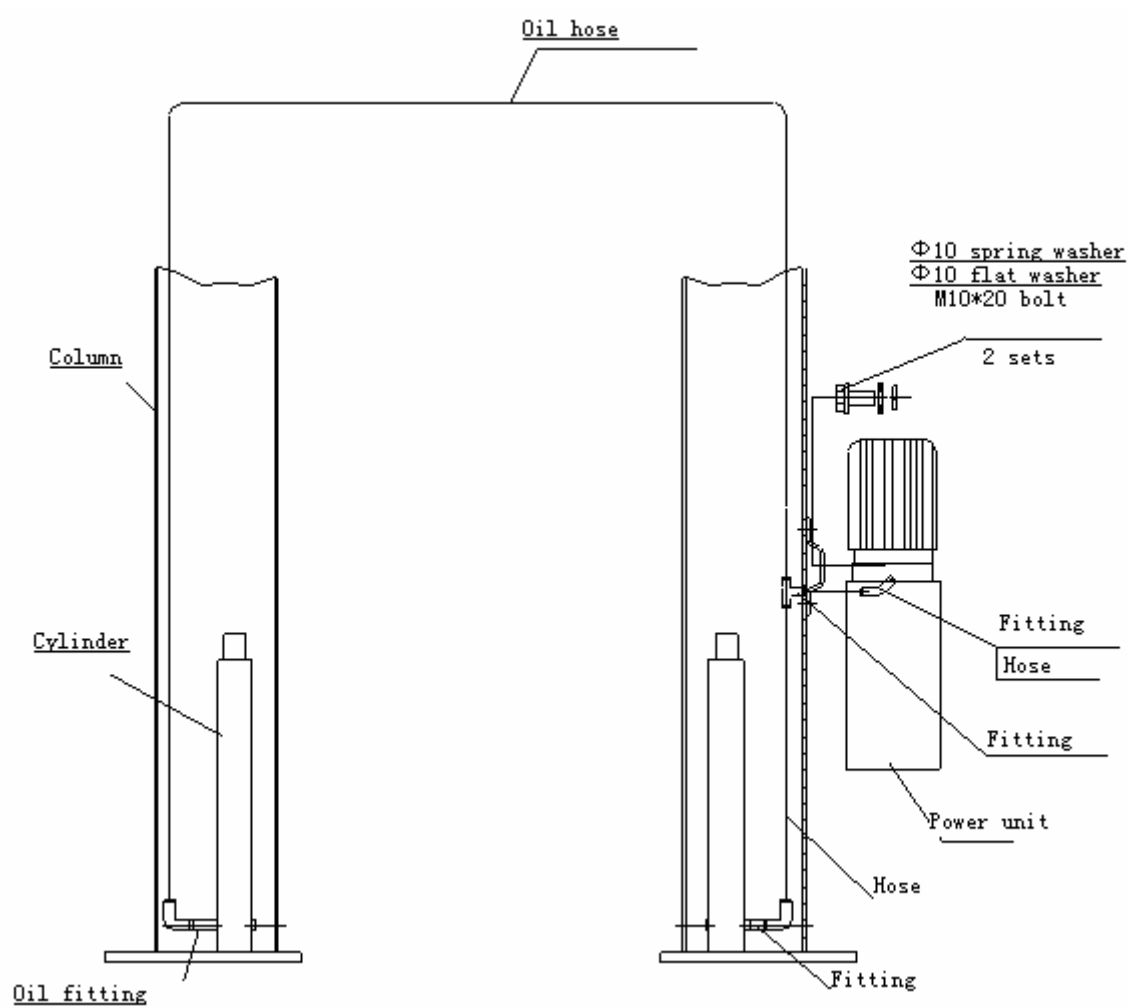
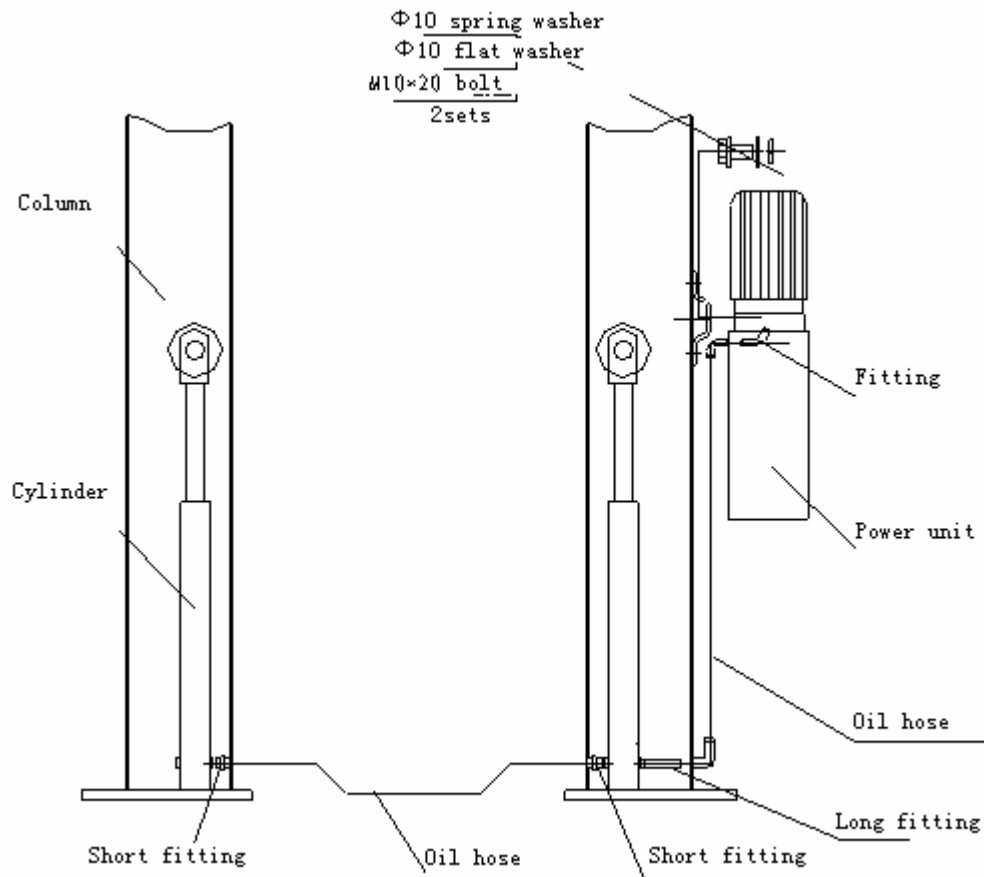

Fig. 14a
Fig. 14b
- Use two M10 Bolt s and washers to fix the power unit (as shown in Fig. 14a、14b). for TLT235SC、TLT240SC、TLT235SC (U) models, install the hydraulic line as shown in Fig. 14a , for TLT235SB、TLT240SB models, , install the hydraulic line as shown in Fig. 14b and tighten all the fittings to